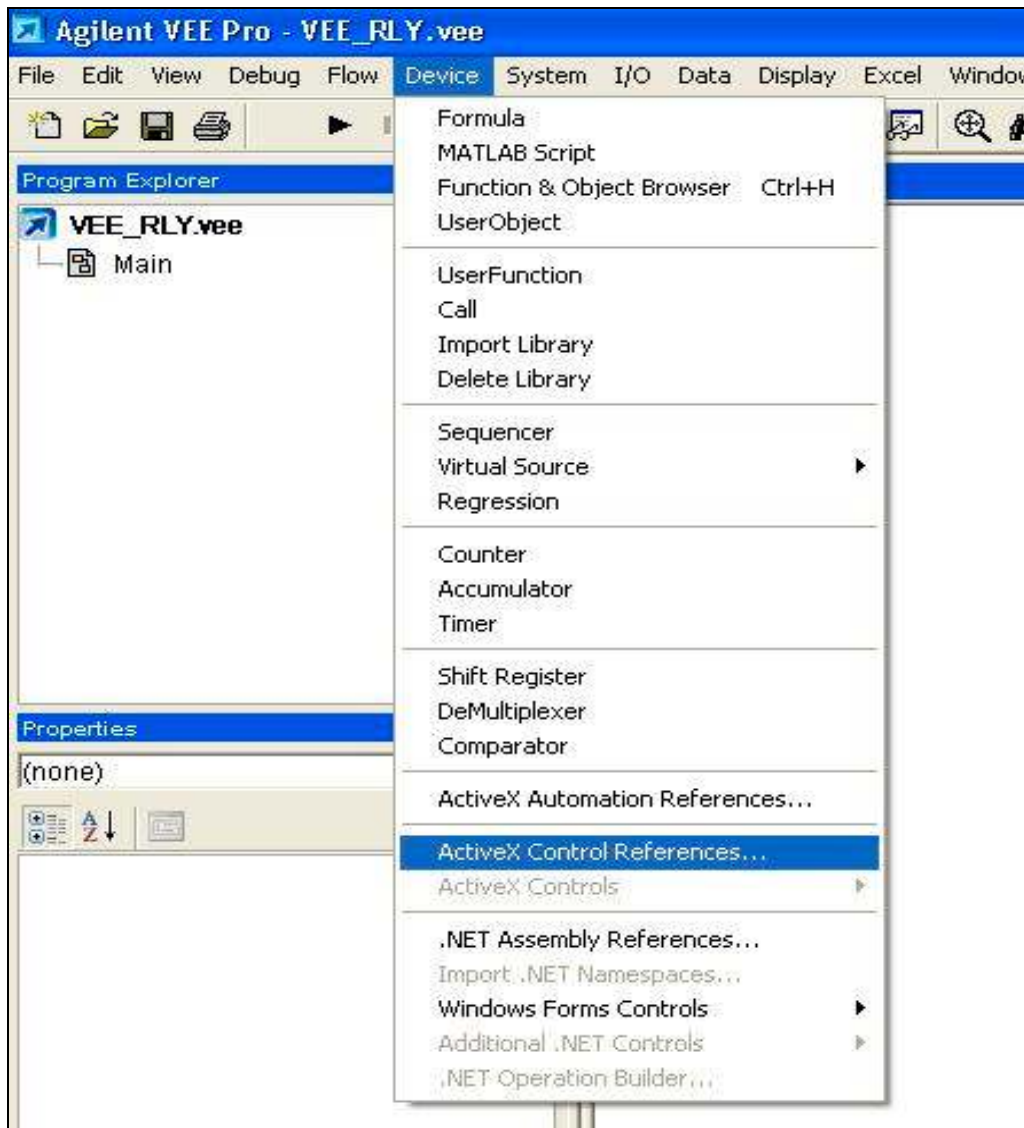

Figure 1.
2. In the Agilent VEE program, select "Device" from the pull-down menu, then within this select "Active Control References". See Figure 1 below.